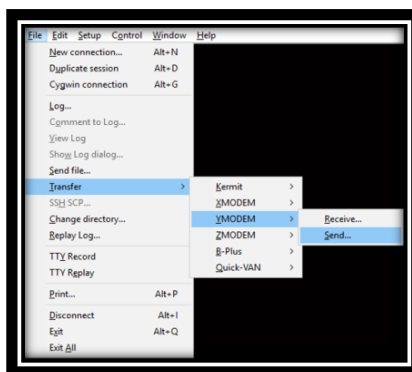

Figure 14: Load Image File
2. Choose menu **File > Transfer > YMODEM > Send** to select the <System Library image> file. See Figure 14.